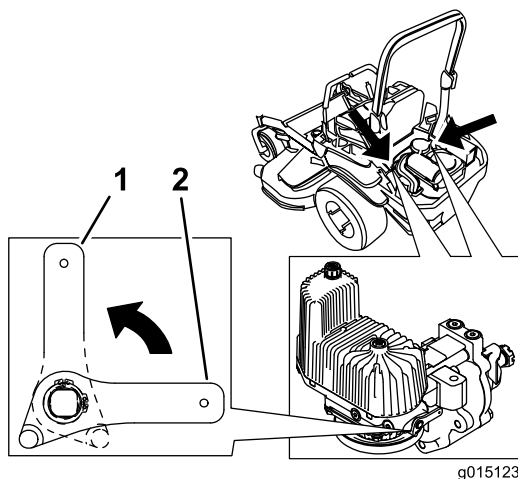

Figure 33
2. Rotate the release-valve levers vertically to push the machine (Figure 33).
4. Rotate the release-valve levers horizontally to run the machine (Figure 33).